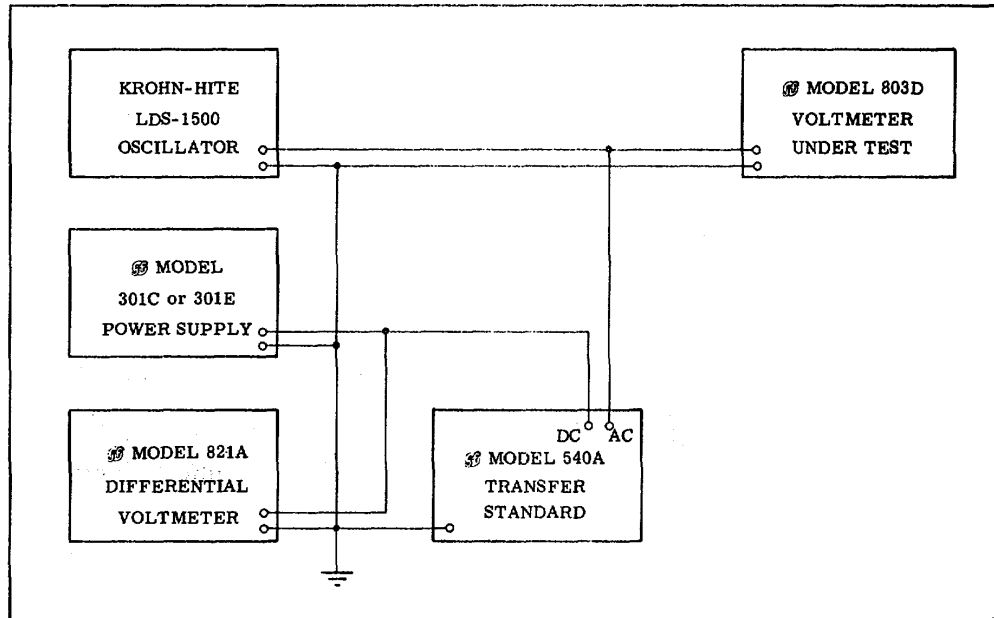

Figure 4-5. AC TO DC CONVERTER CALIBRATION SET-UP
- Set up the necessary equipment to provide 500, 50, 5, and 0.5 volts AC with an accuracy of at least  $\pm 0.03\%$  at frequencies of 400 cycles, 10 kilocycles, and 20 kilocycles with less than 0.1 total harmonic distortion. Proceed as follows: connect equipment as shown in figure 4-5; turn on all test equipment and allow it to warmup to equilibrium temperature (about 1/2 hour; adjust DC power supply voltage until differential voltmeter indicates rms value of AC voltage